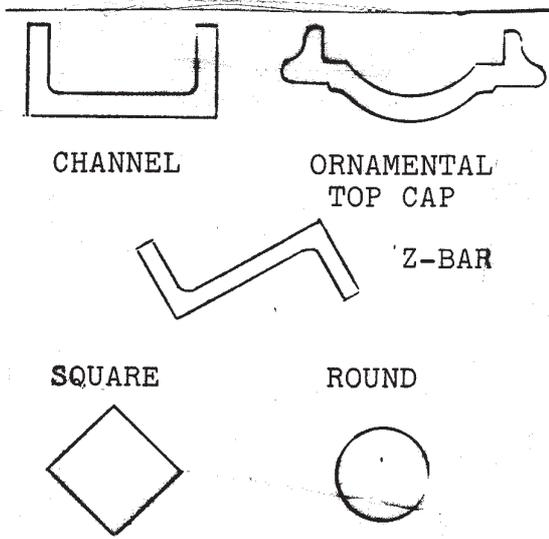

FIGURE 10
- C. **ROUNDS AND SQUARES MAY BE CUT ON THE BAR SHEAR.** Round rods, square bars and other shapes may be sheared on the standard bar blades, but a slight amount of distortion will occur, a flattening on one side of the rod. This type of cut is satisfactory for most welding purposes, but cannot be threaded or fed through a tight clearance without first grinding. To cut many shapes with minimum distortion, notched bar blades that will fit in the bar shear area are available. For diagrams, SEE FIGURE 10 ON THE FOLLOWING PAGE.
Figure 10 features SPECIAL NOTCHED BAR BLADES FOR CUTTING WITH MINIMUM DISTORTION. These are some of the more common notches we provide in blades, to produce minimum distortion cuts. We will also build blades for other shapes. If you have some material that you need to cut without distortion, send us a sample or call us for feasibility and price.